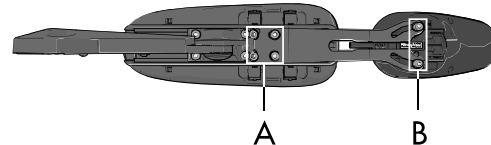

Figure 162. Screws for adjusting the panel holder length and angles.
1. Loosen the two screws (B), see figure 162, on the underside and adjust the angle to the required position.